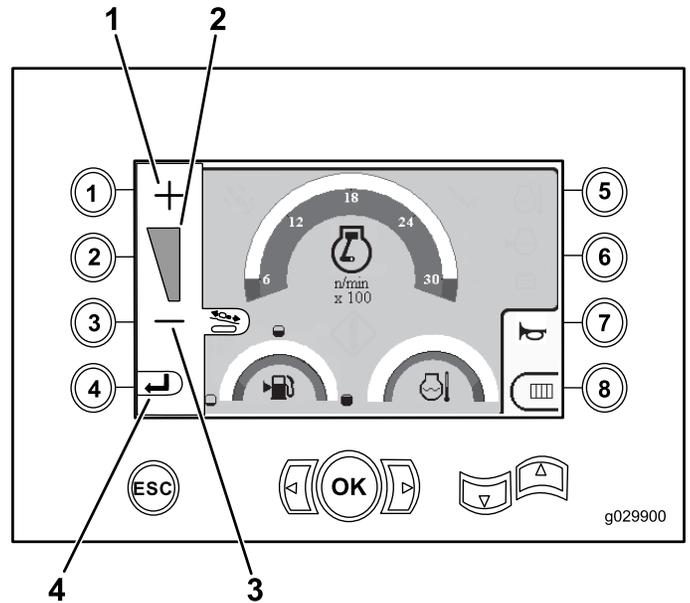

Figure 5
1. Push button 1 to increase the thrust output, or button 3 to decrease the thrust output of the machine (Figure 5).
2. After setting the thrust output, push button 4 (Figure 5), and return to the Main Operating Screen \(page 1\) or Main Drill Functions Displayed in Pressure Screen \(page 2\).